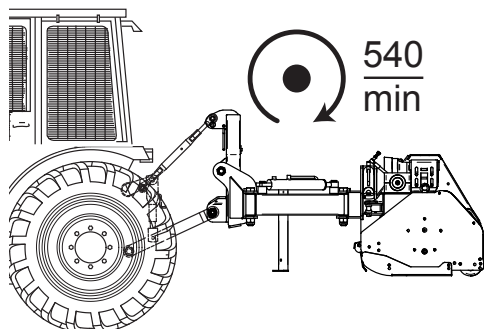

Fig. 23
- e) engage the PTO slowly and accelerate the tractor, avoiding exceeding the maximum limit of rotation of the PTO of 540 rpm/min (Fig. 23).